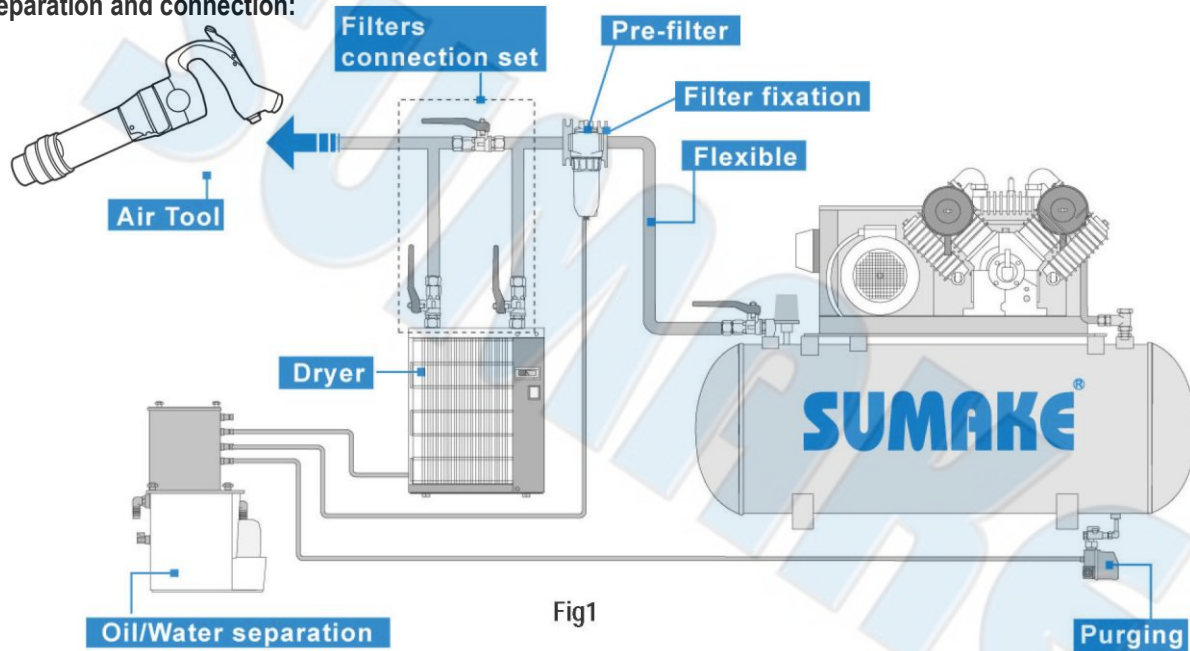

Fig1
- Please refer Fig.1 illustration shows the correct mode of connection to the air supply system which will increase the efficiency and useful life of the tool.
- Dry the filter (fig1) and the air inlet of the tool.